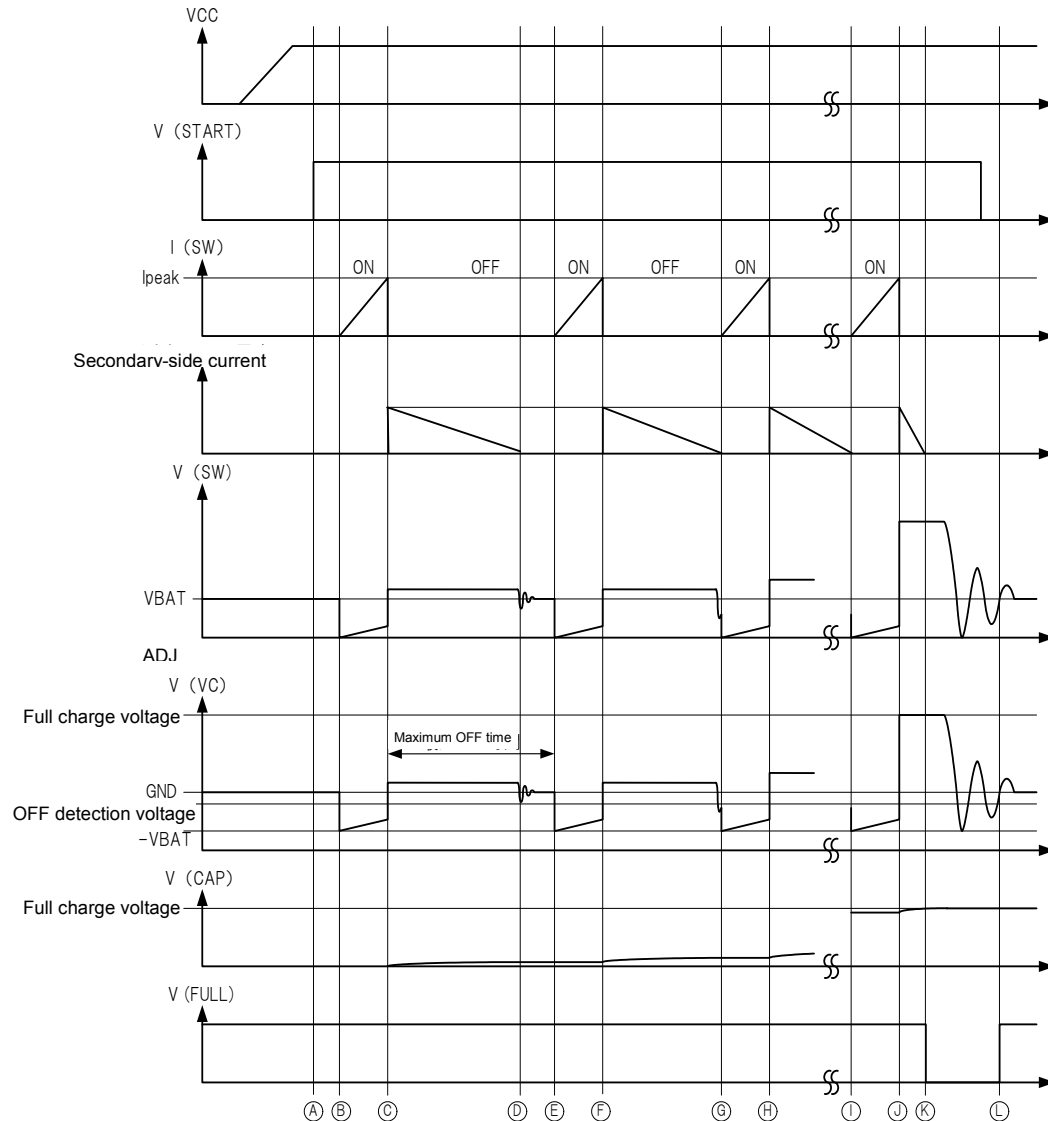

Fig 34. Timing Chart 2: Switching Operation
The switching operation of this IC is shown in Fig.34 Timing Chart 2.
If the START pin is set to "H", all internal circuits are reset, the internal PowerTr is turned ON. (See Fig 34. Time ④→⑤.) While the internal PowerTr is turned ON, a current is passed into the SW pin. When the current specified at the RADJ pin voltage is reached, the PowerTr is turned OFF. (See Time ⑥ in Fig 34.) The time t_{ON} when the PowerTr is ON is indicated as follows:
When the energy release to the transformer secondary-side is completed, the VC pin voltage and the SW pin voltage produce resonance by the parasitic capacitance and the transformer inductance. (See Time ④ in Fig 34) At this time, unless the VC pin voltage becomes the GND voltage or less shown, the PowerTr remains OFF till the maximum OFF time is reached. (See Time ⑤ in Fig 34) As soon as the OFF detection voltage or less is reached, the PowerTr is turned ON. (See Time ⑥ in Fig 34) The time, t_{OFF} when the secondary-side releases energy is represented by the following equation:
When it is detected that the internal PowerTr is left OFF for over the maximum OFF time specified in the electrical characteristics, the PowerTr is forced to be turned ON. This occurs unless the VC pin voltage becomes the OFF detection voltage specified in the electrical characteristics or less. (See Time ㉛ in Fig 34)
VC pin node is divided by between transformer Secondary node and Fast recovery diode anode side by resistor R_{FB1} , R_{FB2} and R_{FB3} . When VC pin voltage reach until full charge voltage as Fig.34 timing chart ①~④, charge is stopped.